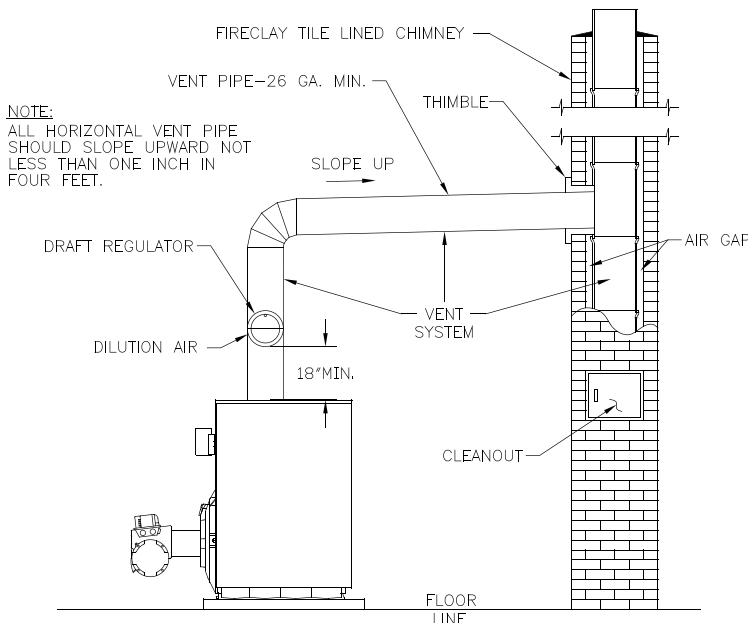

Figure 16: Recommended Smokepipe Arrangement and Chimney Requirements
K. INSTALL SMOKEPIPE — The CL Series boiler should be vented into a fireclay tile-lined masonry chimney or chimney constructed from type L vent or a factory built chimney that complies with the type HT requirements of UL103. The chimney and vent pipe shall have a sufficient draft at all times, to assure safe proper operation of the boiler. See Figure 16 for recommended installation.